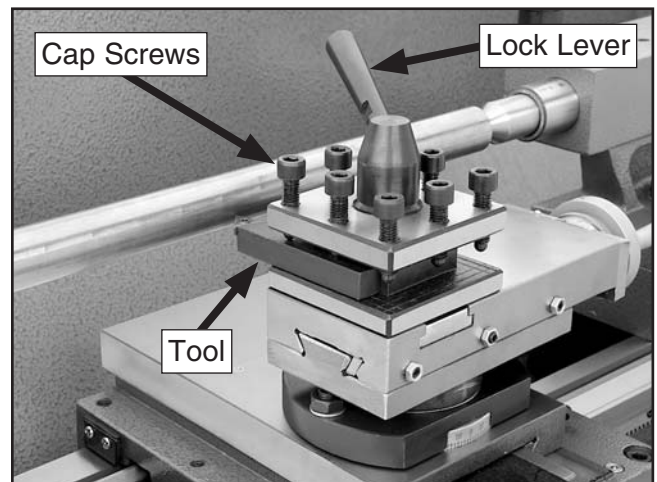

Figure 34. Tool post with a tool mounted.
1. Loosen the tool post cap screws until the tool fits under the cap screws, as shown in **Figure 34**.